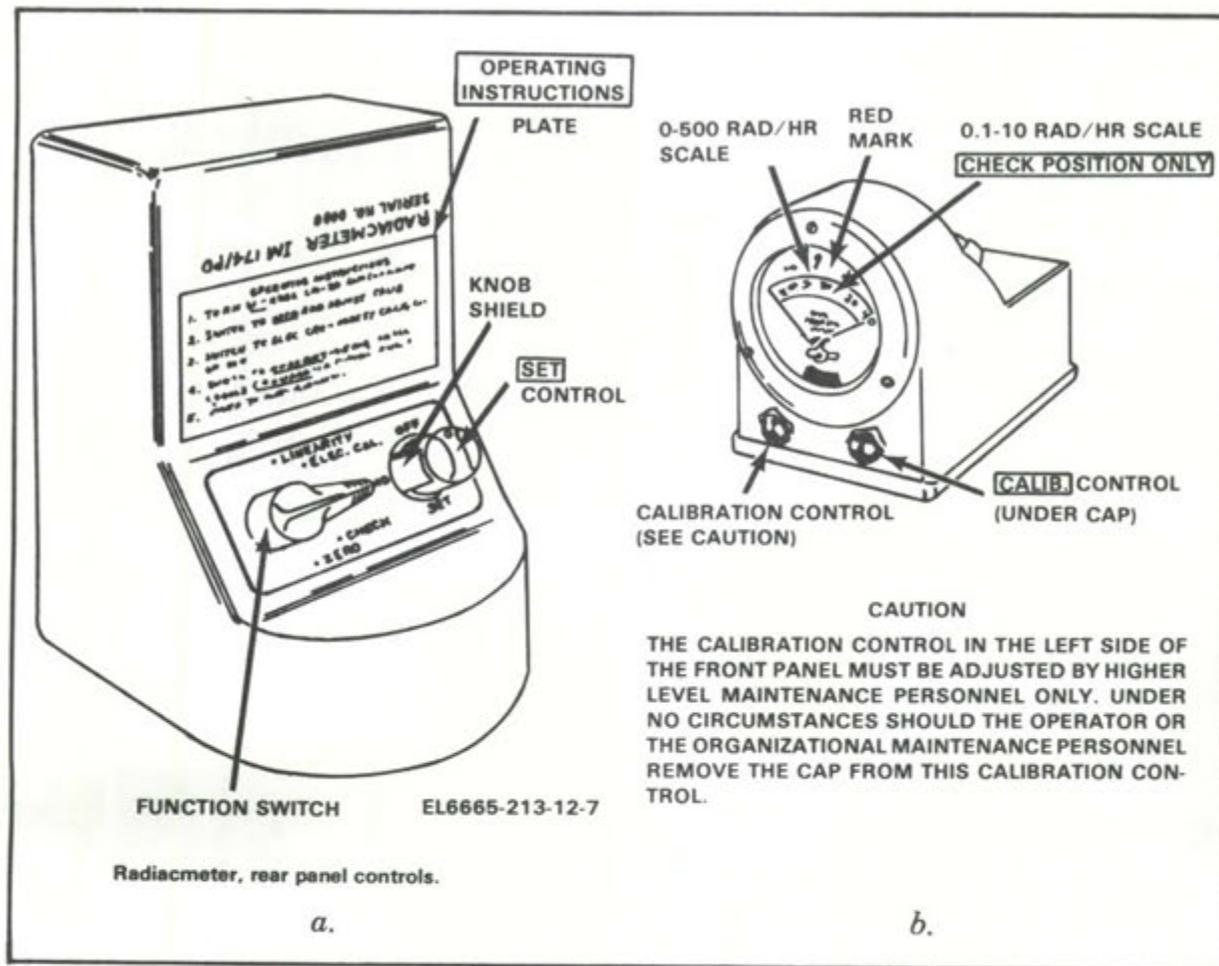

Figure 10a. and b.
**NOTE: This procedure provides an indication that the radiacmeter is probably calibrated. If a panel meter indication of 500 rad/hr cannot be obtained by adjusting the CALIB. control, change the batteries (IM-174/PD, 1b - 1j) and repeat the procedures given in (3) through (6), above. If a panel meter indication of 500 rad/hr still cannot be obtained by adjusting the CALIB. control, the radiacmeter is defective and should be turned in for maintenance.**
(7) Hold the function switch (figure 10a) in the LINEARITY position. The panel meter pointer should fall within the red mark on the face of the meter.
**NOTE: If the pointer indicates outside the red mark, change the batteries (para 1b - 1j) and repeat the procedures given in (3) through (7), above.**
(1) Turn the SET control (figure 10a) to OFF.